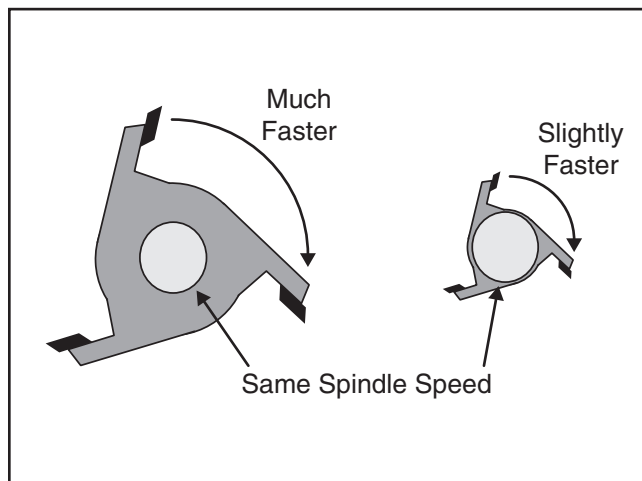

Figure 23. Relative speeds of cutter knives at the same spindle speed.
- Use slower speeds for larger cutters because the knives on the outside of the cutter rotate faster on larger cutters than on smaller cutters for the same spindle speed (see **Figure 23**).